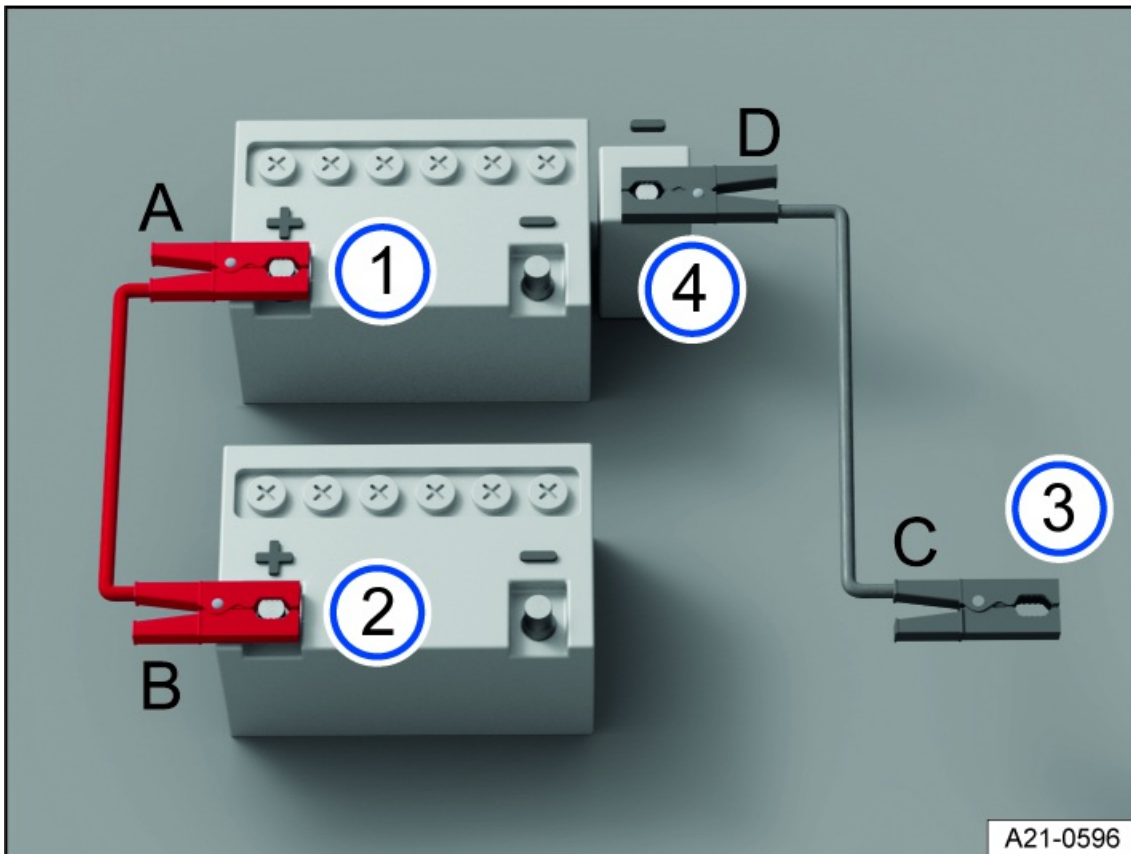

Fig. 199 Diagram for connecting the jumper cables.
Only connect the jumper cables in the sequence A – B – C – D *fig. 199*.
3. Connect one end of the red jumper cable to the positive battery terminal (+) of the 12 V vehicle battery with the discharged 12 V vehicle battery *fig. 199* ① ⇒ .
4. Connect the other end of the red jumper cable to the positive battery terminal (+) on the vehicle providing current *fig. 199* ②.
5. Connect one end of the black jumper cable to a negative terminal jump-start point – on the vehicle with the 12 V vehicle battery providing the jump-start *fig. 199* ③.
Or: If there is no negative terminal jump-start point (–), connect the end of the black jumper cable to a large metal part that is bolted securely to the engine block, or the engine block itself, on the vehicle with the 12 V vehicle battery providing current *fig. 199* ③.
6. Connect the other end of the black jumper cable to the negative terminal jump-start point (–) on the vehicle with the discharged 12 V vehicle battery *fig. 199* ④ ⇒ .
3. Once the vehicle has been jump-started, always disconnect the jumper cables in the order D – C – B – A *fig. 199*.